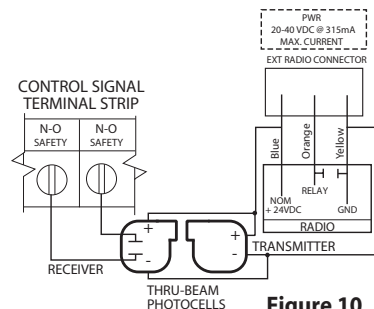

Figure 10
- 1) Nominal 24 Volt DC Commercial photocells with normally open contacts can be connected as shown in **Fig. 10.**